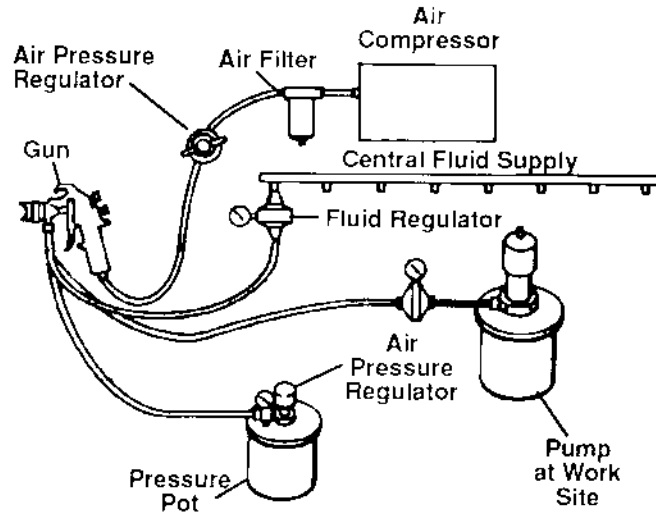

Figure 2. Pressure Feed System
1. Pressure Feed System (see figure 2)
2. Fluid flow is controlled either by a fluid regulator, or the regulator on the pressure pot (see figure 2, page 3).